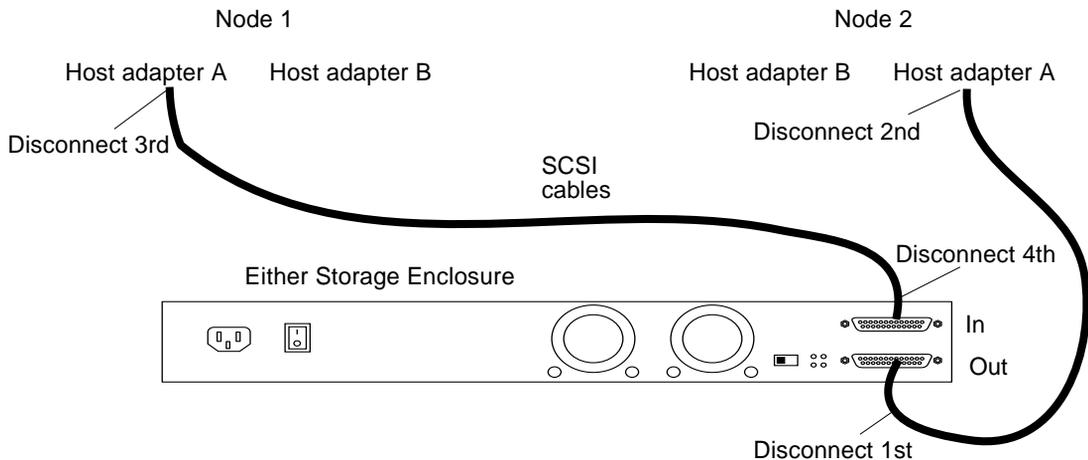

FIGURE D-8 Disconnecting the SCSI cables
- 2. Disconnect the SCSI cables from the Netra D130/StorEdge S1 enclosures, disconnecting them in the order shown in FIGURE D-8.**